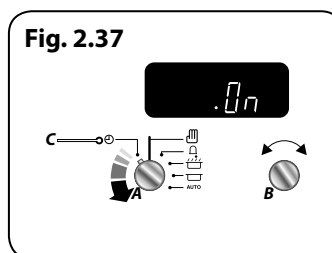

Fig. 2.37
2. Turn the **Timer (A)** knob to the **Clock (C)** setting and hold for approx 8 seconds. The display will show 'ON' (**Fig. 2.37**).